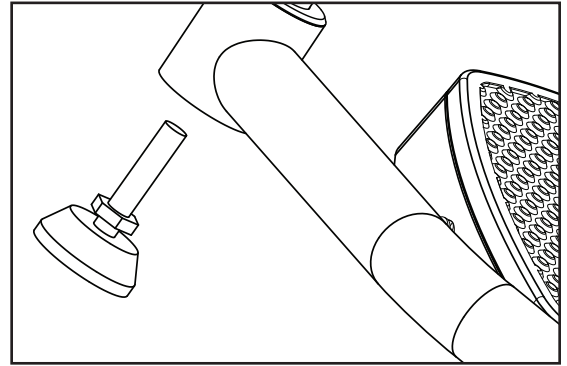

Figure 16
- 9-1 Replace the 2 leg levelers previously removed in Step 8 (see Figure 16).